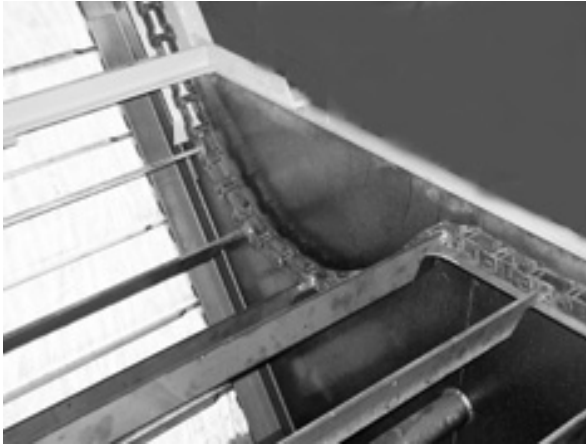

FIG. 21 Catenary Take-up of Drag Chain
1. Place the end of the drag chain assembly into the lower run of the conveyor casing. Cleats "Up" on lower run. See Figure 21.